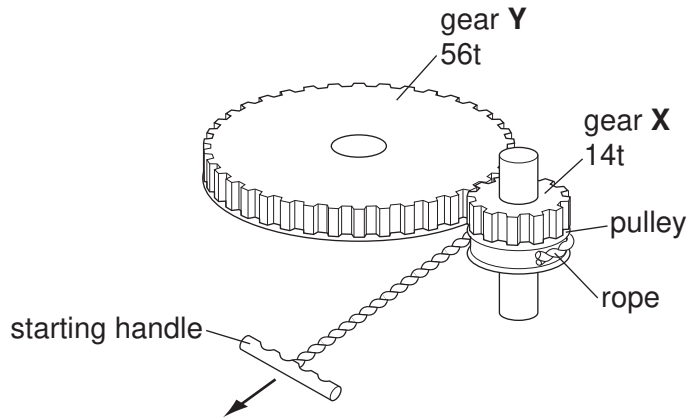

Fig. 10
(e) Fig. 10 shows part of the starting system for a cement mixer.
- (i) Add arrows to Fig. 10 to show the direction of the motion of the gears as the starting handle is pulled. [2]